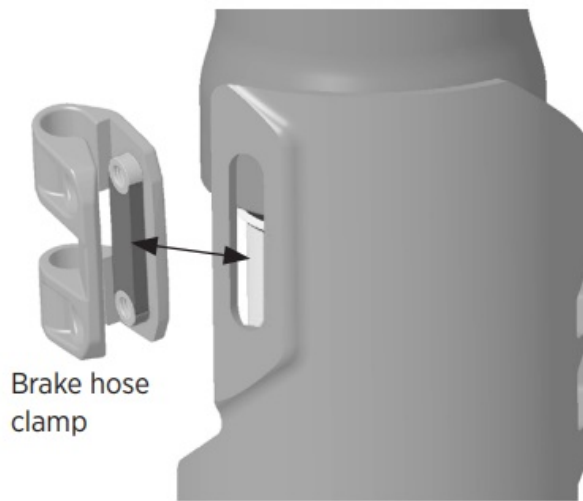

Figure 4: Clamp installation on lower fork guard
1. Install the brake hose clamp onto the slotted opening of the lower fork guard (Figure 4). Verify that the protrusion on the clamp is fully installed in the slot of the guard.